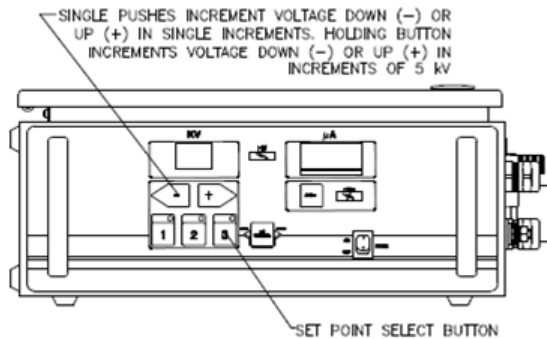

Figure 17: kV Adjust/Setpoint Buttons
When the No. 2 Handgun is off, the present setpoint can be changed by pressing the 1, 2, or 3 buttons on the front panel shown in Figure 17. The setpoint that is currently selected will have the LED light in the upper right corner of the button lit.
select the desired setpoint by pressing the corresponding setpoint button. The setpoint can then be adjusted between 20 kV and full kV using the + and - buttons on the front panel of the 9060 Controller shown in Figure 17. Single pushes of the + or - buttons will increment or decrement the currently selected preset in units of 1. When the + or - buttons are held in for longer than a 1/2 second, the kV display will begin incrementing or decrementing in units of five (5).